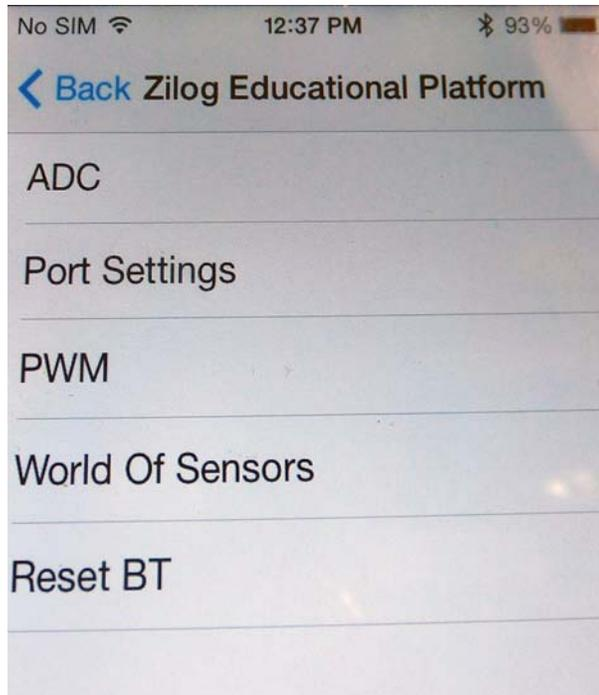

Figure 17. The ZEDUcation Command Screen
5. Tap the BlueRadio LE device that appears in the Select Device screen. After a moment, the Zilog Educational Platform command screen shown in Figure 17 will appear.